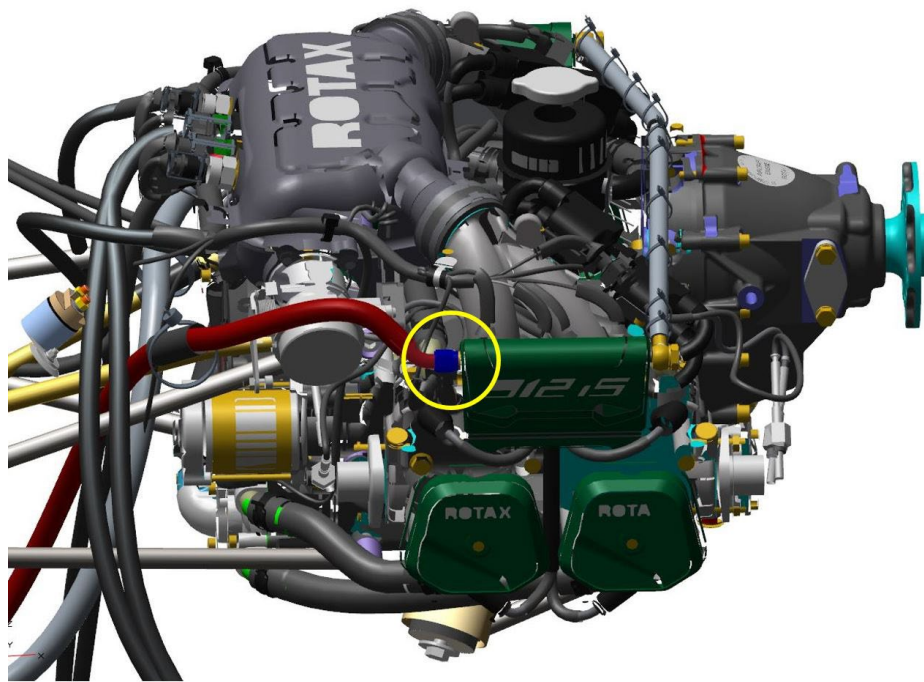

Figure 2 – AN-6 fitting on the engine.
1. Pump all fuel from tank, Figure 2: